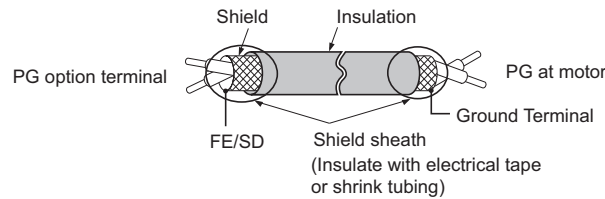
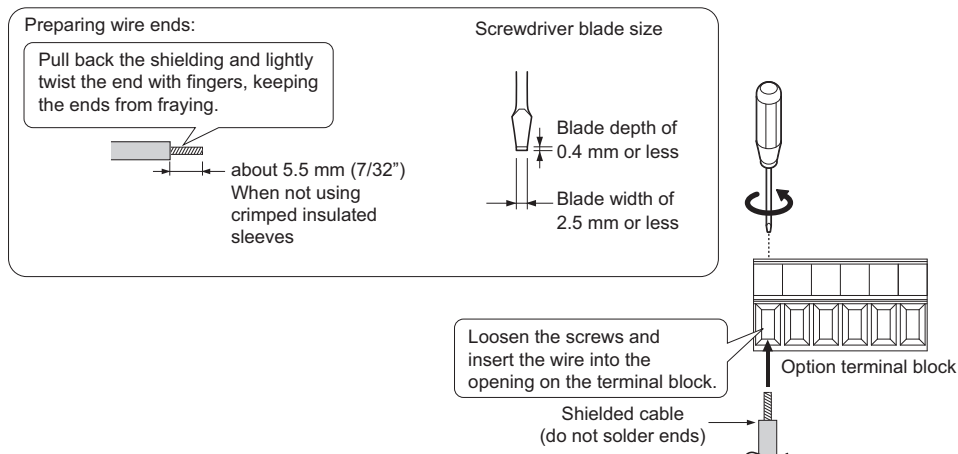

Figure 8.7 Preparing Ends of Shielded Cable
Figure 8.8 Preparing and Connecting Cable Wiring
- There are two screw holes on the drive for use as ground terminals (H). When connecting three options, two ground wires will need to share the same drive ground terminal.
- Prepare and connect the wire ends as shown in **Figure 8.7** and **Figure 8.8**. Refer to **Wire Gauges and Tightening Torques on page 436** to confirm that the proper tightening torque is applied to each terminal. Take particular precaution to ensure that each wire is properly connected and wire insulation is not accidentally pinched into electrical terminals.